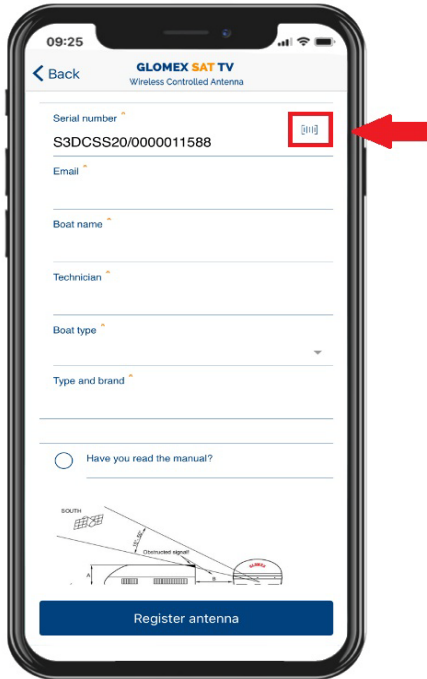

Fig. 35
- Click on the bar code button on the top right (Fig. 35), scan the bar code on page 2 of your antenna's user manual, on the package box, on the rear of the control unit and on the parabolic disc. Complete the registration with the missing data.